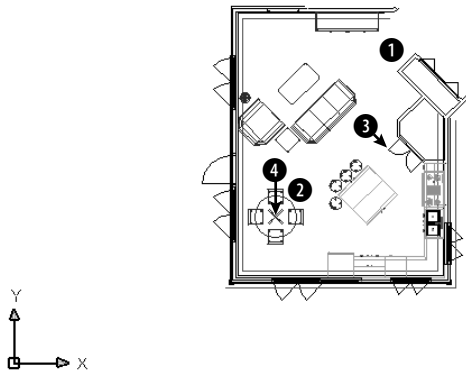

Figure 22-33: A 3D house in plan view.
2. Save it as `ab22-03.dwg` in your `AutoCAD Bible` folder. This is a portion of a 3D house in plan view, as shown in Figure 22-33. Make sure that OSNAP is on. Set a running object snap set for endpoint, and turn off any other object snaps.
3. You want to create a perspective view from approximately ① to ② in Figure 22-33. You can see right away that the wall near ① will need clipping. To find the distance of the clipping plane from the target, choose `Tools` ⇨ `Inquiry` ⇨ `Distance`, and pick ③ and ④. The pertinent information is `Distance = 12' - 5 9/16"`. You may have a slightly different distance. To see the distance information, press `F2` to open the `Text` window.